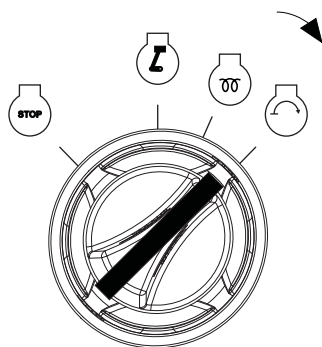

Figure 3-8. Crank Engine
- See Figure 3-8. Turn ignition switch to START position and hold (10 seconds maximum) until engine cranks and starts.